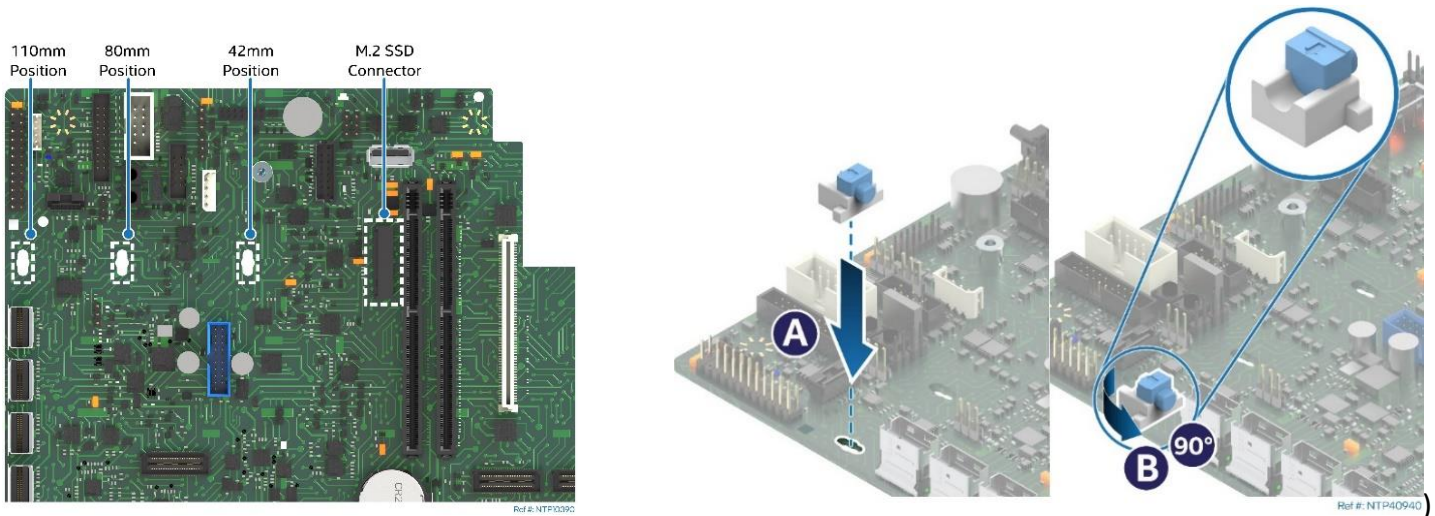

Figure 39. M.2 Mounting Latch Placement
The system includes an M.2 latch assembly that secures an M.2 SSD to the server board. To support different M.2 SSD form factors, the latch can be mounted within any of three mounting locations on the server board as shown in Figure 39. The system supports the following M.2 SSD form factors: 2242 (42 mm), 2280 (80 mm) and 22110 (110 mm).
5. Mount the M.2 latch assembly to the server board (see Figure 39).